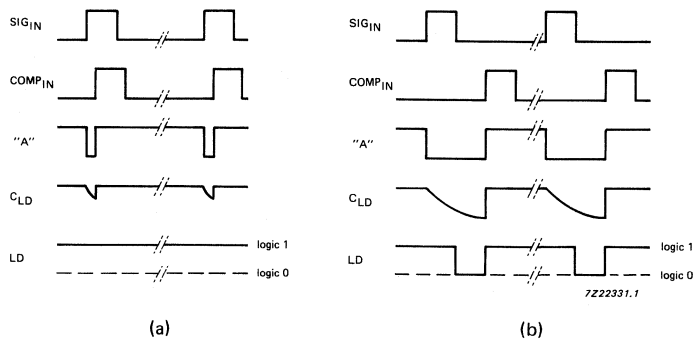

Fig. 31 Waveforms showing the lock detection process; (a) in-lock; (b) out-of-lock.
If the PLL is in-lock, only very small pulses will come from the "up" or "down" connections of PC2. These pulses are filtered out by a RC network. A Schmitt trigger produces a steady state level, a HIGH level indicates an in-lock condition and a pulsed output indicates an out-of-lock condition as shown in Fig. 31.
(1) See Fig. 31 for input waveform.